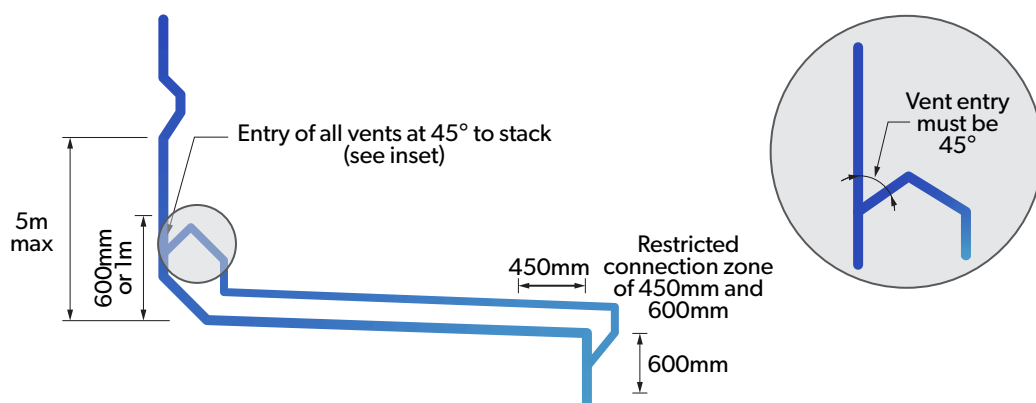

Figure 4 - Graded stack offset with pressure relief bypass
- 1.5.2 Any stack offset greater than 45° will require a pressure relief vent (see figure 4). For further details please see AS/NZS3500.2 Figure 11.5.1(B).